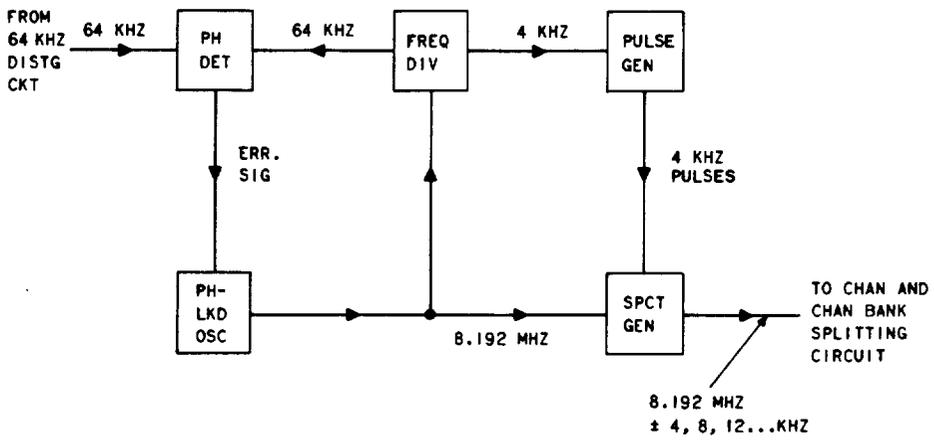

Fig. 5—Carrier Supply—Frequency Generating Circuit
3.03 The carrier generator (Fig. 5) uses a phase-locked 8.192-MHz oscillator, synchronized to the office 64-kHz distribution circuit, to generate the 12 channel carrier frequencies (8.140, 8.144, 8.148...and 8.184 MHz) and one channel bank carrier frequency (8.248 MHz) for use in the channel and channel bank circuits, respectively, of the A6 channel bank (356-016-100).